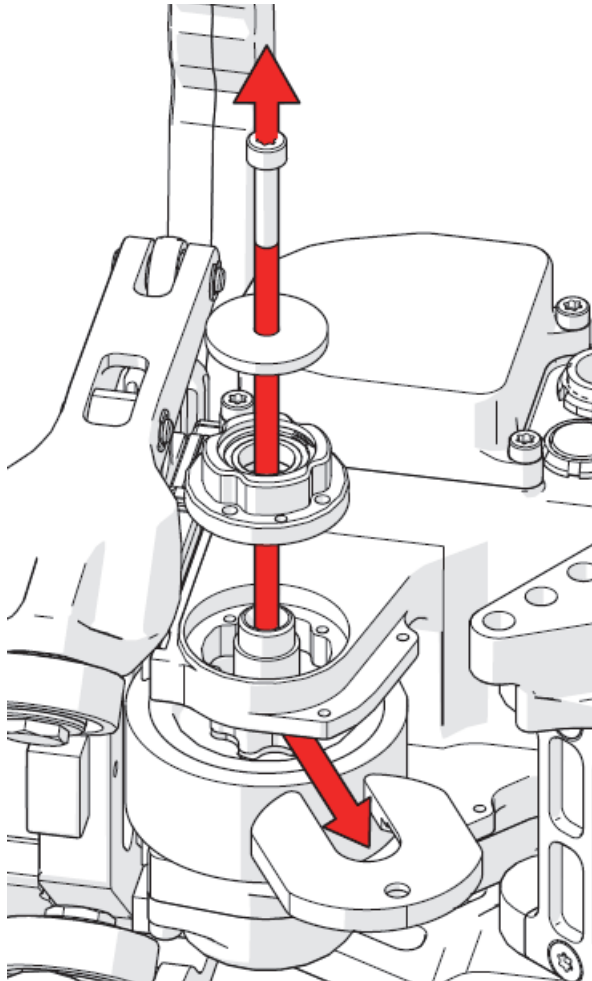

Figure 2-21 Remove the wheel pulling tools
23. Unthread the wheel puller screw and remove it, along with the washer, the bearing housing, and the wheel puller tool (see Figure 2-21 on page 97).